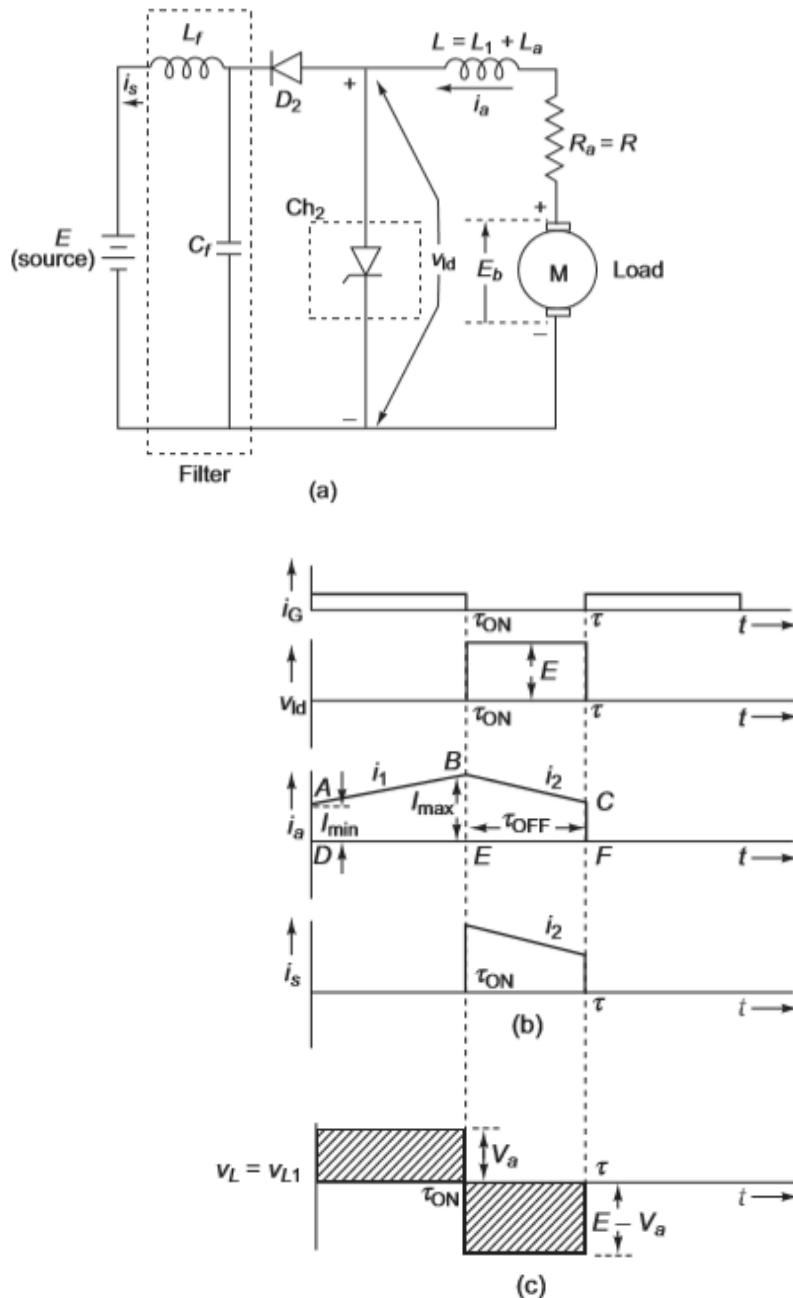

Fig. 7.26 Regenerative braking of a chopper-based dc drive: (a) circuit diagram, (b) waveforms, (c) voltage across inductor L for one period (τ)
(a) The circuit and waveforms are shown in Figs 7.26(a) and (b). The average load voltage is
13. A dc chopper is used for regenerative braking of a dc series motor as shown in Fig. 7.26(a). The data are $E = 400$ V, $R_a = 0.05$ Ω , $R_f = 0.04$ Ω , $L = L_a + L_f = 0.09$ mH. The product $K_b\phi_f$ may be assumed to be constant at 1.5 V/rad s and the average load current is 200 A. The frequency of the chopper is 1 kHz and $\tau_{ON}/\tau = 0.6$. Compute the (a) average load voltage, (b) motor speed, (c) power regenerated and fed back to the battery, (d) equivalent resistance viewed from the motor side when it is working as a generator, and (e) minimum and maximum permissible speeds.